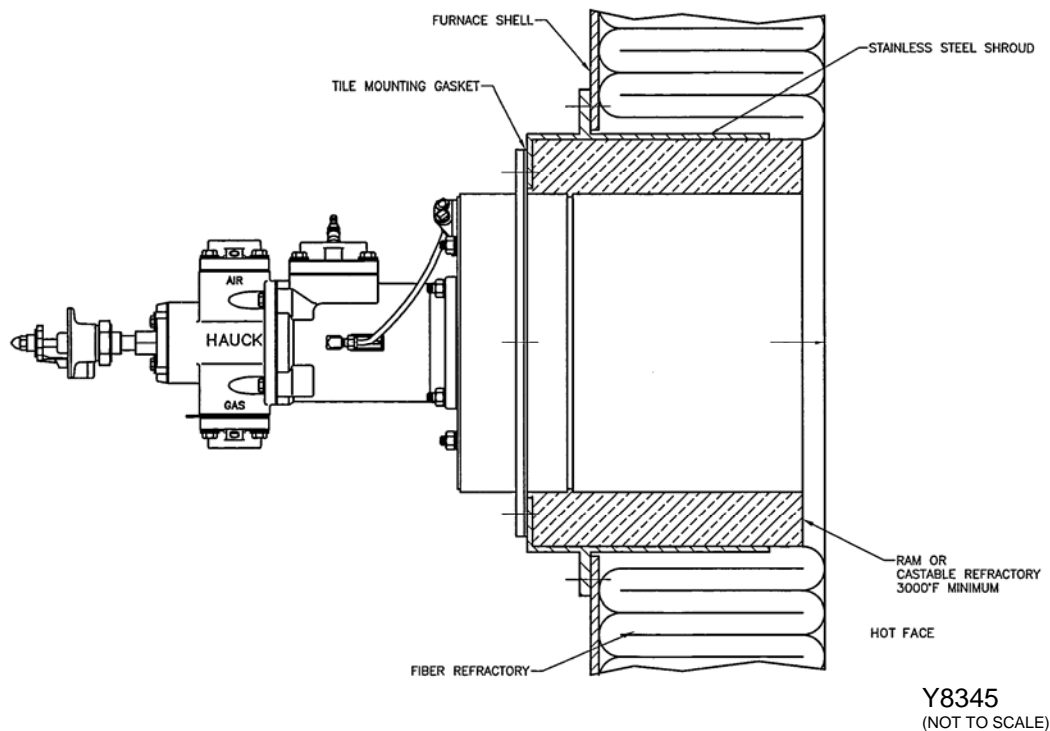

Figure 2. Burner Installation in Fiber Lined Wall
1. To ensure long refractory life with pressurized tiles as used on the EJC burner, it is **very important** that the ignition tile be tightly constrained on all sides (reference Figure 2 or 3). The best procedure is to fit the refractory wall around the burner block after installing the burner. Soft wall furnaces may require either stainless steel shells or special refractory supports to accomplish this. Since EJC burners can fire in any position, they can be installed through the roof, walls, or bottom of the furnace.
- B. Insert the tile into the furnace wall, making sure that the tile is adequately supported on all sides by the wall. The best procedure is to install refractory tightly around the tile after it has been put into the furnace wall (reference Figure 2 or 3).